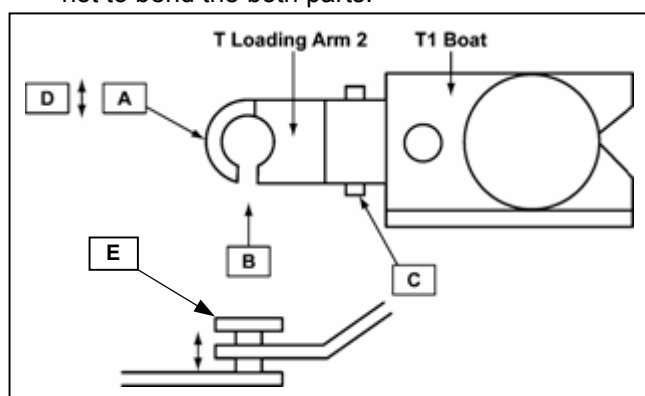
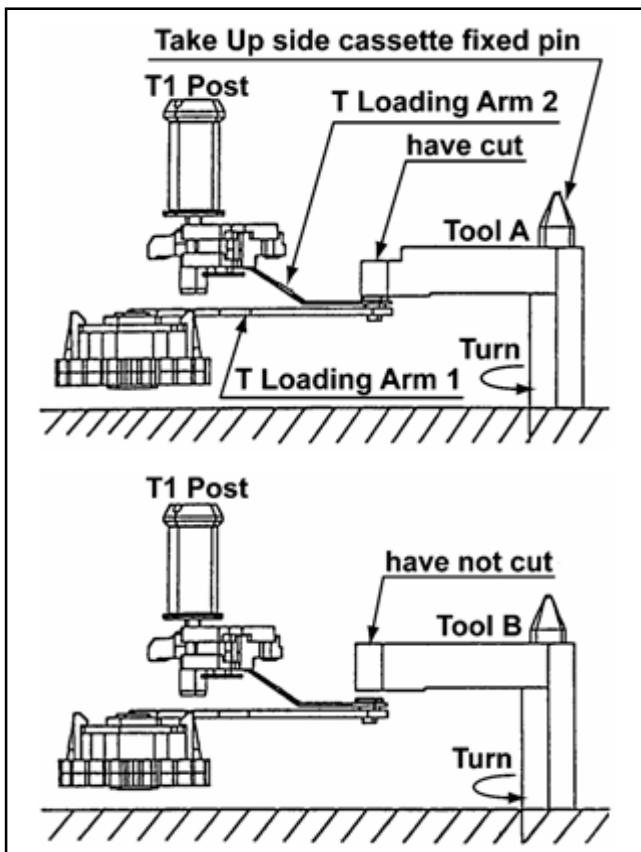

Figure 5-20-1
Figure 5-20-3
3. Set the T Arm Height Adj. Tool A (VFK1452) to take up side cassette fixed pin as shown in figure 5-20-3.
4. Turn the Tool A and confirm that the Tool A contacts to pin E (the position of pin E as shown in figure 5-20-1) as shown in figure 5-20-3.
5. Set the T Arm Height Adj. Tool B (VFK1543) to take up side cassette fixed pin as shown in figure 5-20-3.
6. Turn the Tool B and confirm that the Tool B does not contact to pin E (the position of pin E as shown in figure 5-20-1) as shown in figure 5-20-3.